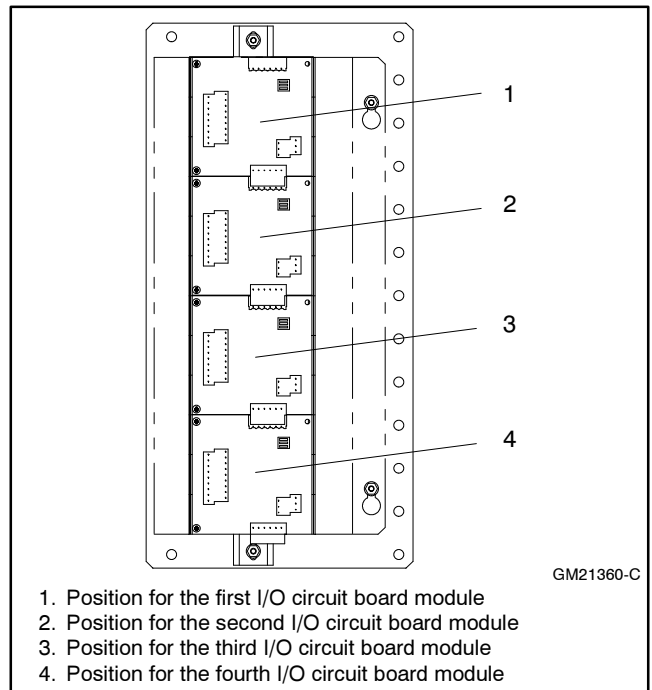
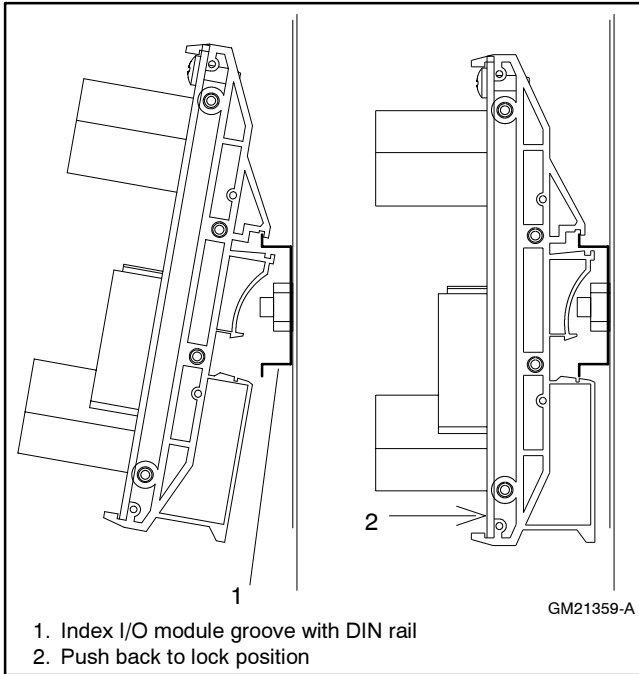

Figure 6 Mounting Position of I/O Circuit Board Module on DIN Rail
Figure 8 Installing I/O Circuit Board Module on DIN Rail
- 3.4 Install Programmable I/O Module No. 1 to the DIN rail in the position shown in Figure 6. Attach by tilting the I/O module slightly back and aligning the first index slot and then pushing the other side of the I/O module toward the DIN rail. See Figure 8.
- 3.5 Repeat step 3.4 for any additional Programmable I/O Module Kits. Refer to Figure 6 for positioning I/O modules Nos. 2-4.
Each I/O module must have a unique base address in order to establish controller communication. Refer to Figure 6 for I/O module numbers based on position.